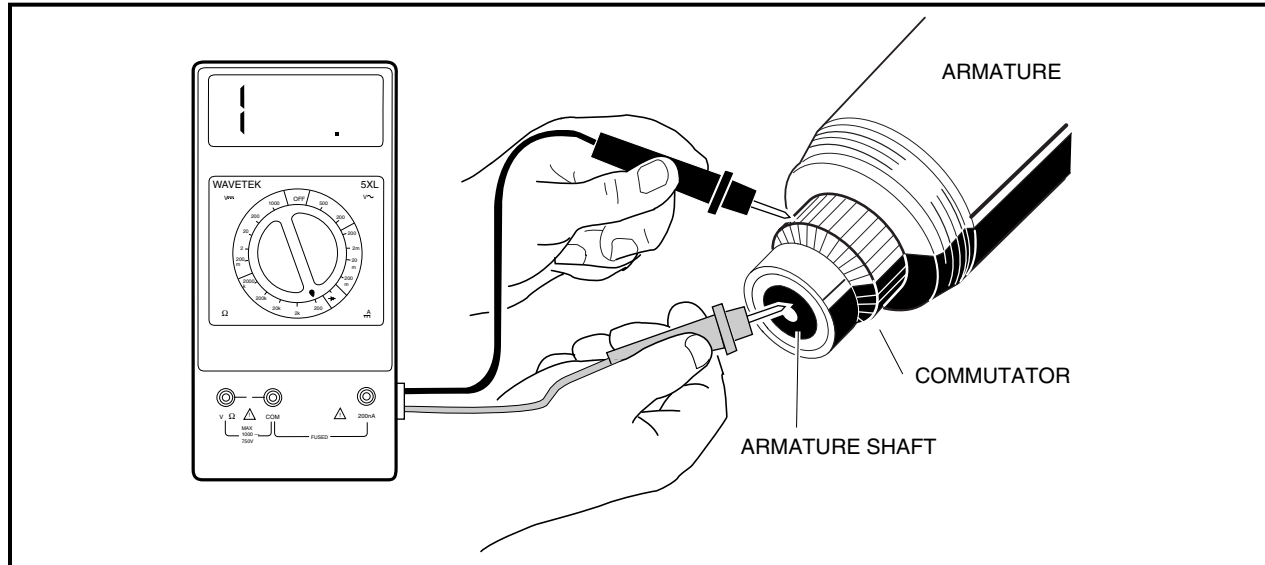

Figure 12-13 Armature Ground Test
1. Use a multimeter set on 200  $\Omega$  (ohms) and place the positive (+) probe on the commutator bars and the negative (-) probe on the armature core. The reading should be no continuity. If the reading is incorrect, replace the armature and the two bearings (**Figure 12-13, Page 12-8**).